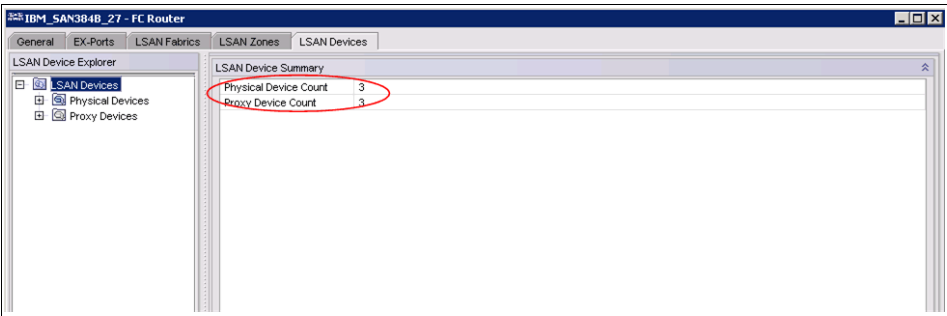

Figure 9-19 LSAN Devices
- Determine the connected devices. Determine which device exists in the fabric and which device is imported. Notice the fabric ID (FID) for edge and the backbone. See Figure 9-19.